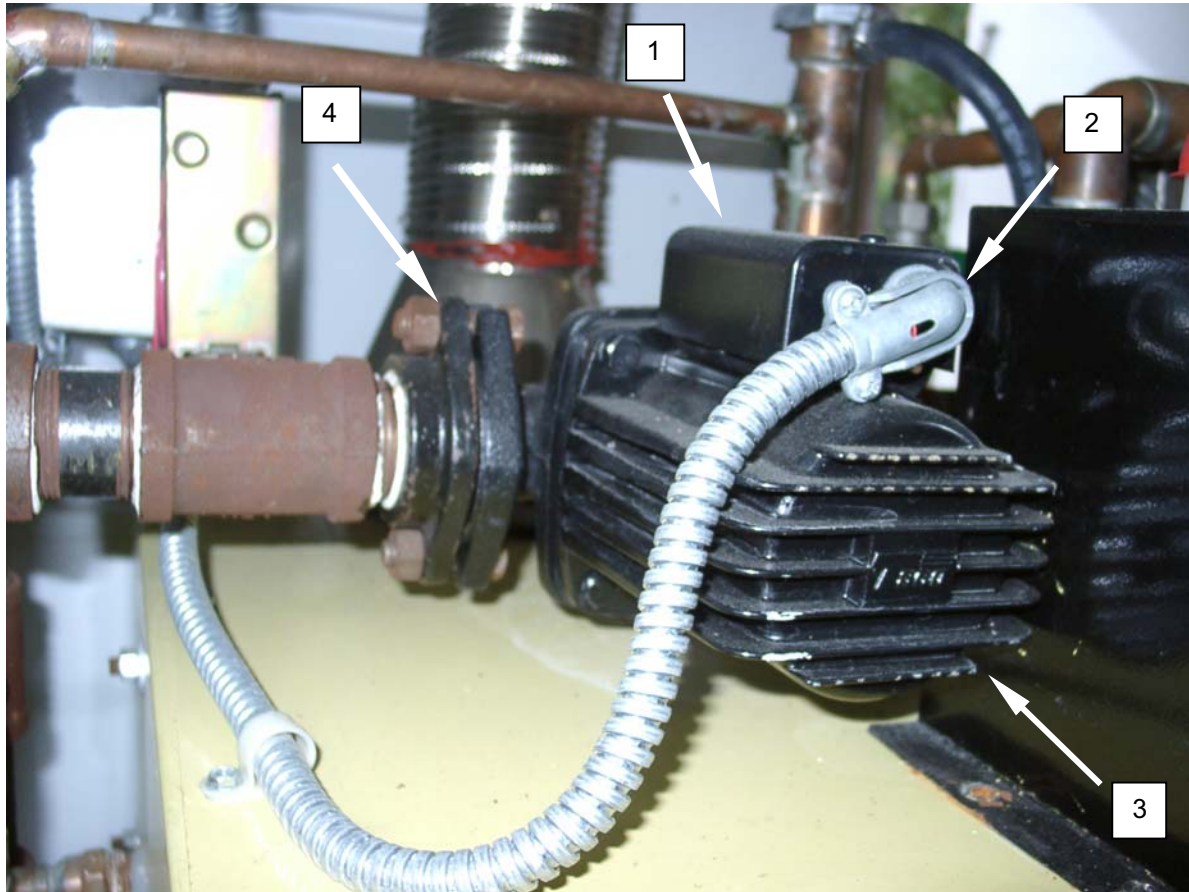

Figure 2. Replace the Circulation Pump.
4. Remove screws retaining junction box cover (**Figure 2, Item 1**), and remove cover.
6. Remove locknut retaining conduit (**Figure 2, Item 2**), and remove conduit.
7. Remove bolts, washers, and nuts retaining pump (**Figure 2, Item 3**) to pump flanges (**Figure 2, Item 4**), and remove pump.
9. Install replacement pump (**Figure 2, Item 3**), and retain with bolts, washers, and nuts.
10. Remove screws retaining junction box cover (**Figure 2, Item 1**) on replacement pump (**Figure 2, Item 3**), and remove cover.
11. Knock out conduit penetration in junction box (**Figure 2, Item 1**), if necessary.
12. Install conduit (**Figure 2, Item 2**), and retain with locknut.
14. Install junction box cover (**Figure 2, Item 1**) and retain with screws.